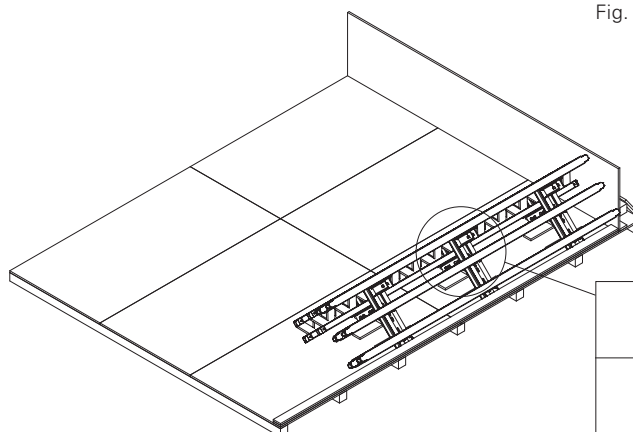

Fig. A3.03
3. Mount girders 2 – 5 in the same way. Fix girders 3 + 5 diagonally to the stubs. (Fig. A3.03)